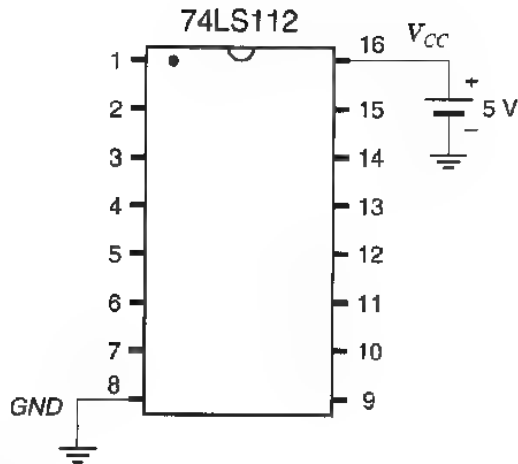

Fig. 3
1. Hook up the circuit of Fig. 2. Use either one of the two JK flip-flops inside a 74LS112 chip, the pinout of which is shown in Fig. 3. *Be sure you connect the ground and supply pins. The PRESET input should be permanently connected to a logic 1 (the +5 V supply voltage), as indicated in Fig. 2.*
6. Now build the circuit of Fig. 5. Two JK flip-flops can be found in one 74LS112 chip, so you will need two such chips. The pin assignment has been given in Fig. 3. You can mark the pin numbers directly on Fig. 5 to make connecting easier. *Be sure you connect*